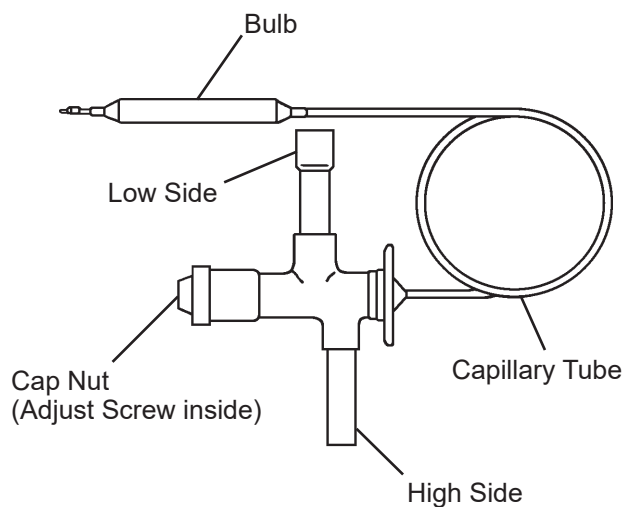

Fig. 13
- 4) Disconnect the outlet and inlet of expansion valve using a pipe cutter. Disconnect the inlet side near the expansion valve to keep the pipe length as much as possible. Disconnect the outlet side at the broken line in Fig. 13. If needed, expand the end of disconnected pipes using a pipe expander to connect with the new expansion valve.